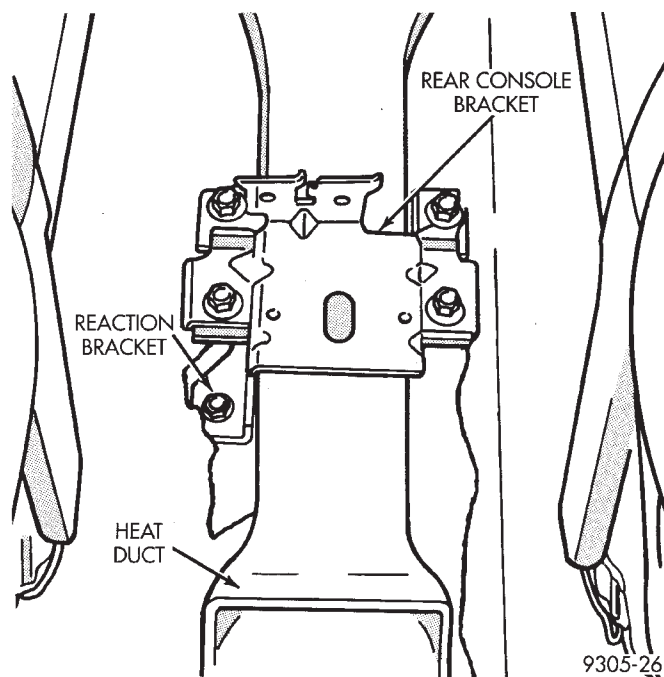

Fig. 4 Console Mounting Bracket And Heat Duct
(8) Remove upper center console cover from vehicle. Refer to Group 23 Body in this service manual for required procedure to remove center console.
(9) Remove rear console mounting bracket (Fig. 4) from park brake cable reaction bracket. Remove rear passenger compartment heat duct (Fig. 4) from vehicle, for access to park brake cables.